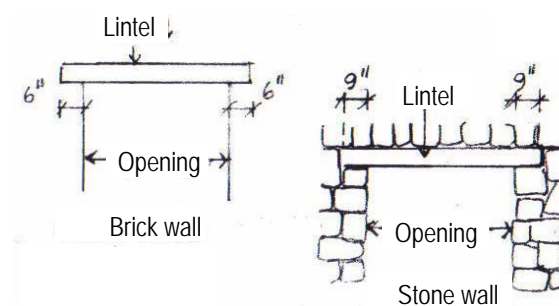

Fig 12 - **End bearing for lintels**
- Made sure that the ends of lintels have adequate bearing on the walls on which they rest. Bearings of lintels over walls are: 6" for brick walls, 9" for random rubble walls (See Fig.12)